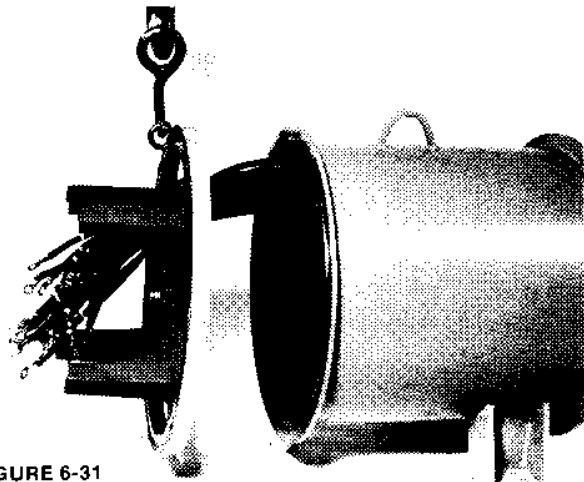

FIGURE 6-31
2. Remove the front end bracket from the main stator assembly. (Figure 6-31.)